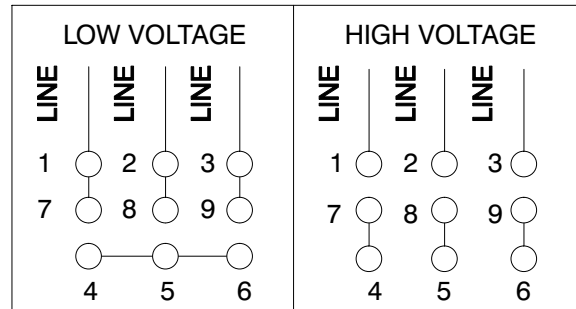

Figure 3. Motor Wiring Diagram
**Power Cable Reassembly**, Section E, in this manual. Change the motor leads as indicated on the wiring diagram plate affixed to the side of the terminal housing, see Figure 3. Be sure to tag the revised voltage on the pump.